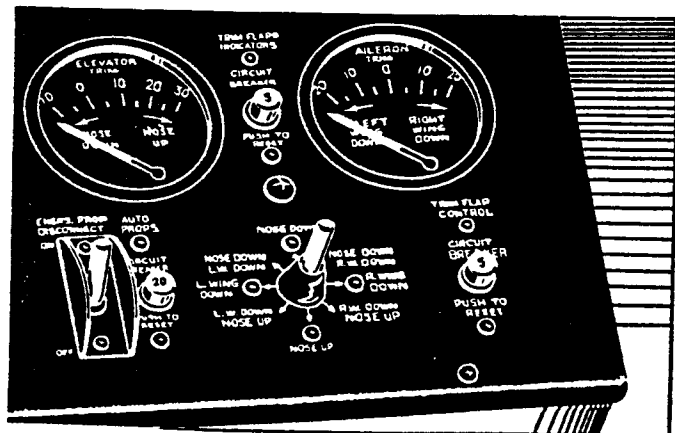

Figure 3. Trim Flap Controls
1. AILERON TRIM FLAP POSITION INDICATOR 8DJ17ABL. (See figure 3.)- This instrument is installed near the aft end of the pedestal instrument panel just above the trim flap control switch. The instrument is actuated by a transmitter using 28 volt d.c. The transmitter is mechanically connected to the trim flap.
2. ELEVATOR TRIM FLAP POSITION INDICATOR 8DJ17ABM. (See figure 3.)- This instrument is installed to the left of the aileron trim flap position indicator and is similar in operation.